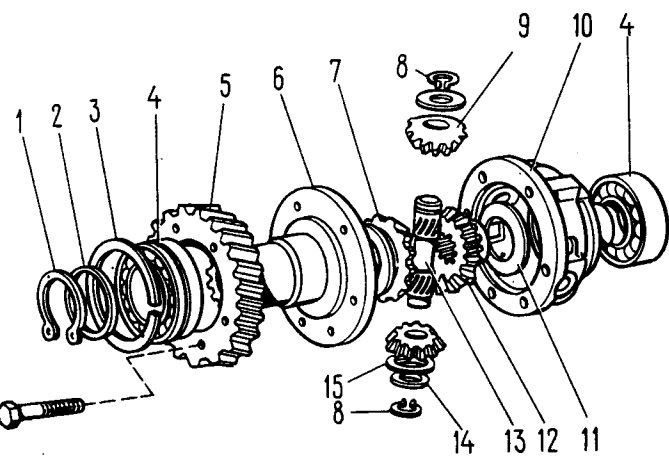

Fig. 3-45. Parts of Transfer Case Differential:
- remove lockring 1 (Fig. 3-45) and spring washer 2 of the front bearing;
- remove lockrings 8 (Fig. 3-45) and spring washer 14, then drive out the pinion shaft and take off the differential pinions and the driving axle gears with supporting washers.
Remove spring washer 15 (Fig. 3-45) and make sure there is no radial displacement of lockrings 8 in the grooves of shaft 14. Replace the lockrings if they are found to be loosely fitted.